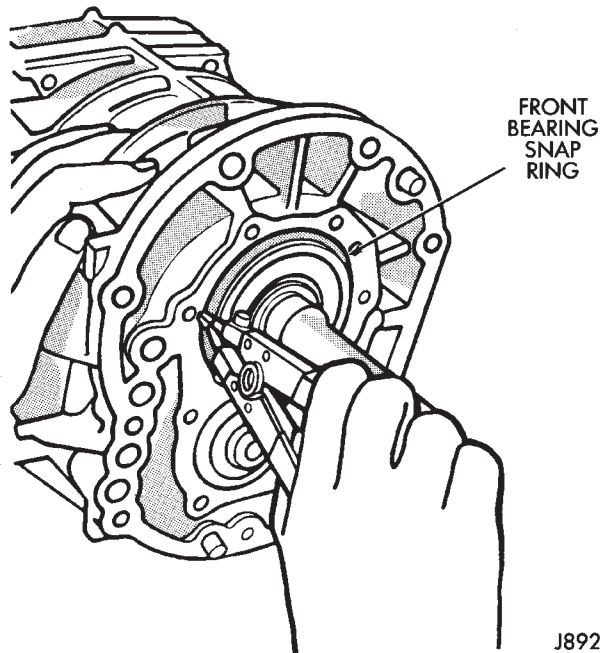

Fig. 93 Installing Front Bearing Snap Ring
(4) Install new front bearing snap ring (Fig. 93).